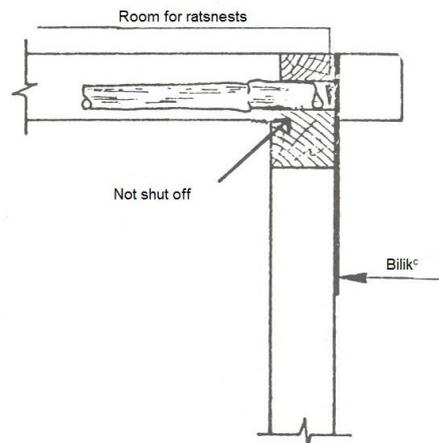

Figure 4a. Incorrect positioning of corner architraves.
- i. It is quite common to find architraves of differing heights. In these cases, the ceiling joists are placed on the lower architrave and the difference is made up by a 'packing' lath placed on top of the rafters to reach the level of the top architrave (Fig. 4a). When a bamboo wall is built up to the level of the lath, the space between the lath and the lower architrave cannot be seen and the bamboo ceiling joists cannot be inspected. This provides a perfect opportunity for rats to build nests, unnoticed.